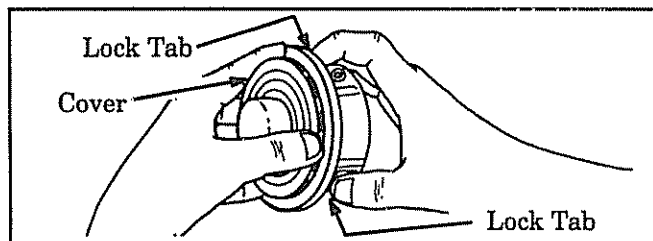

Figure 11
- a. Hold the trimmer head as shown in Figure 11 . Press the two lock tabs and remove the cover. Figure 11 .